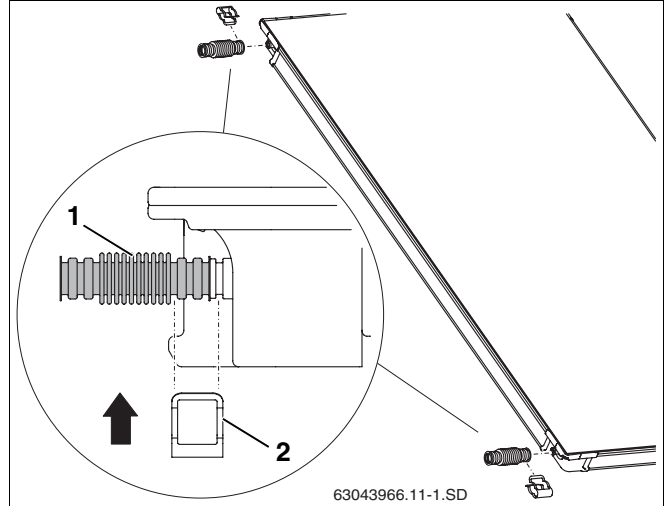

Fig. 45 Fitting corrugated pipe connectors to the first collector
- ▶ Push corrugated pipe connectors (Fig. 45, **Item 1**) onto the left-hand connections on the first collector.
- ▶ Push bracket (Fig. 45, **Item 2**) over the corrugated pipe connector and collector connection to secure the connection.